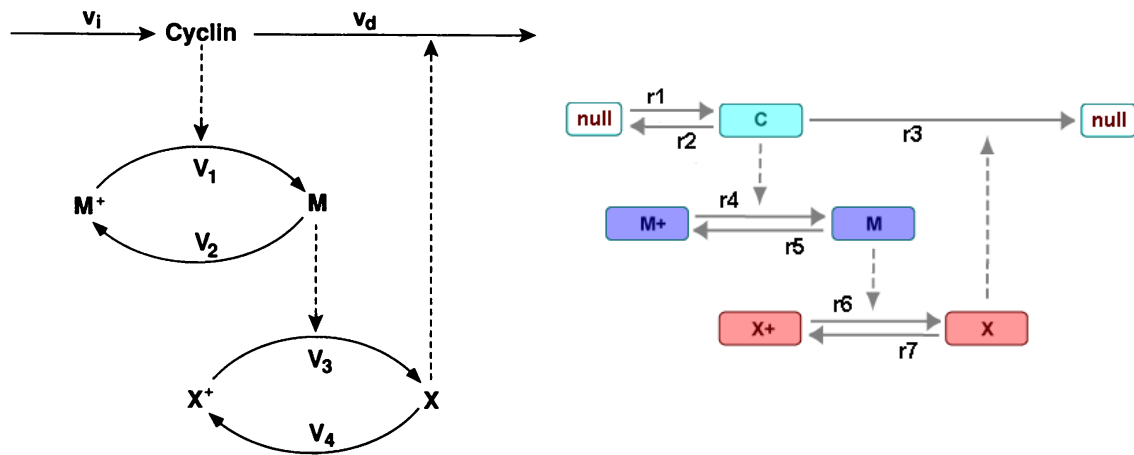

Figure 9: Reaction schemes of the Goldbeter model. *left*: from the original publication *right*: scheme for our implementation.
Here, we want to apply our newly learned skills in Copasi to simulate a model of the cell cycle by Goldbeter *et al.*. The model consists of a cyclin (C), a kinase (M) and a protease (X). The kinase and the protease have two states – an active (M, X resp.) and an inactive one (M^+ , X^+ resp.). The reaction scheme is given in Figure 9.
Implement the reaction scheme according to Figure 9 in Copasi.